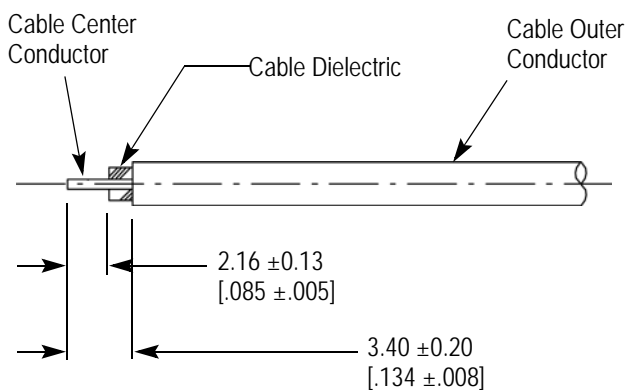

Figure 2
3.1. Preparing Coaxial Cable End (Figure 2)
Strip cable to the dimensions shown in Figure 2.